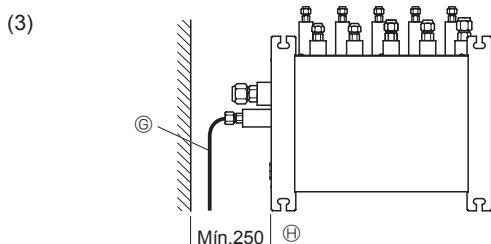

Fig. 4-8
#### (3) Vista superior (Fig. 4-8)